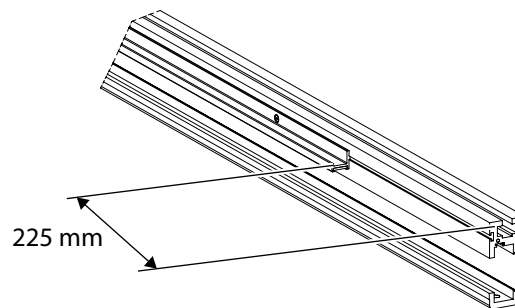

Fig. 4-4 Mounting distance
- For distances, see Fig. 4-4 *Mounting distance*